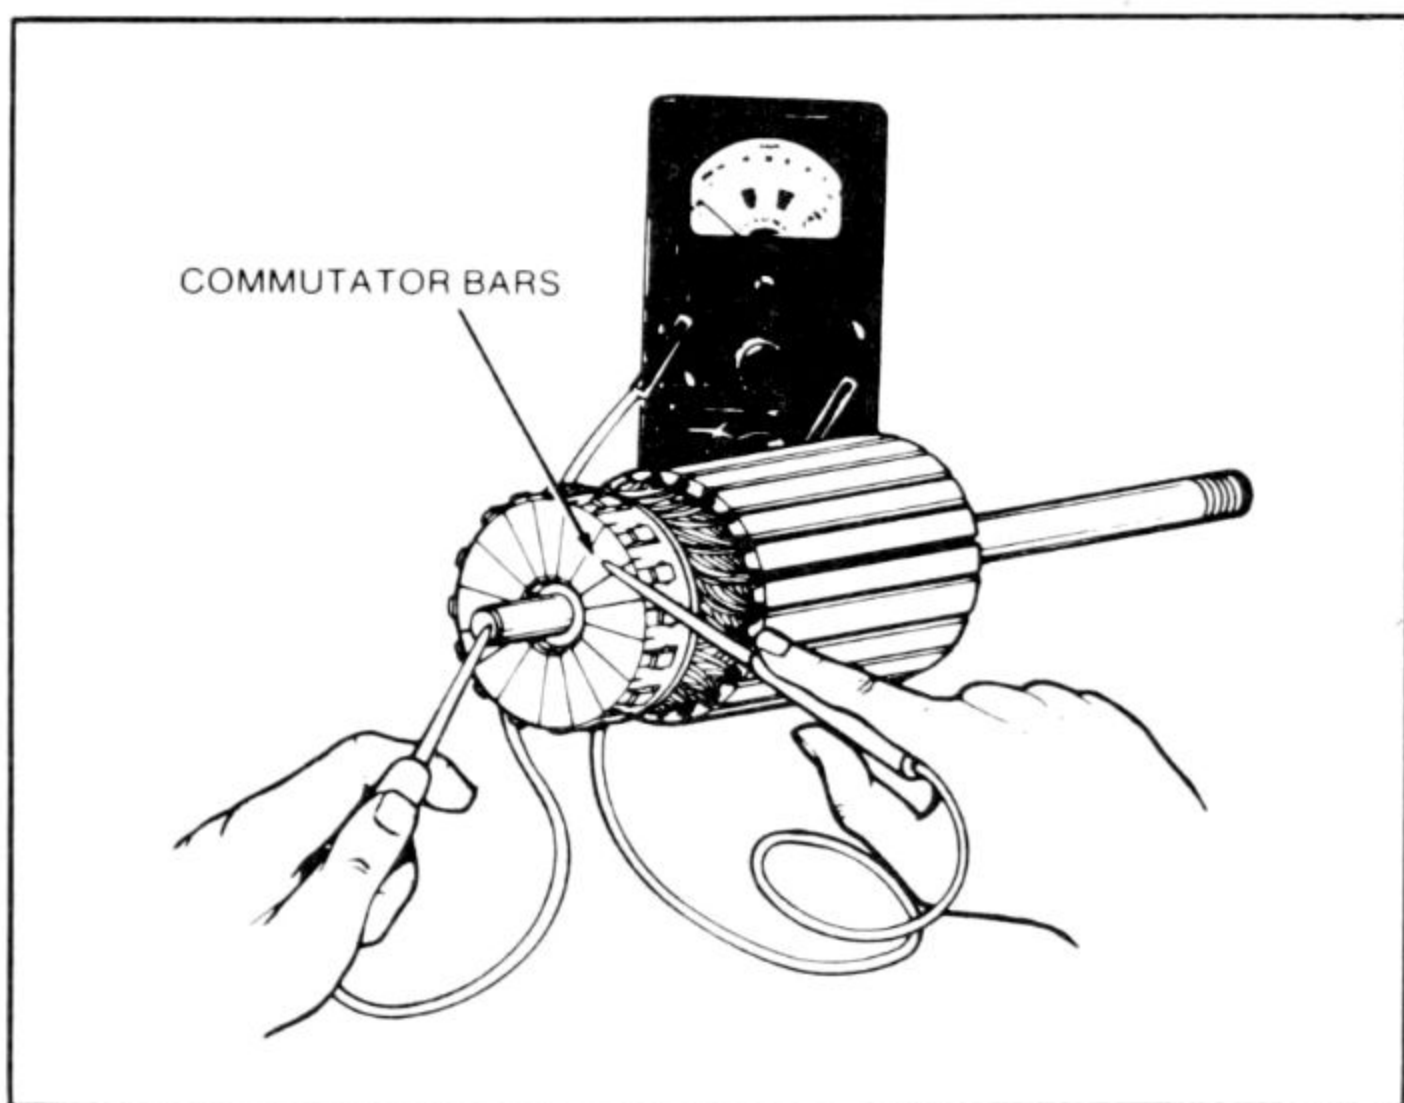

Fig. 5-15. Testing American Bosch radial commutator for shorts to motor shaft. (Courtesy Onan.)
- No bar pair has continuity with other commutator bars or with the motor shaft (Fig. 5-15).